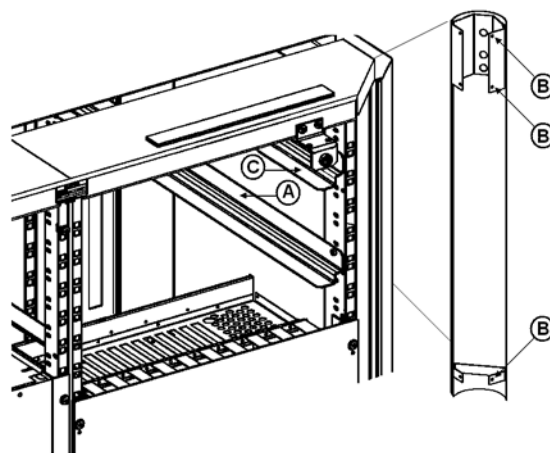

Figure 4.4 - Column and rail locations
1. Relocate the existing rails, A in Figure 4.4, for adequate airflow.
2. Mounting the rails requires removing the front and rear columns of the system. Remove the screws located at position B in Figure 4.4 to detach the columns.